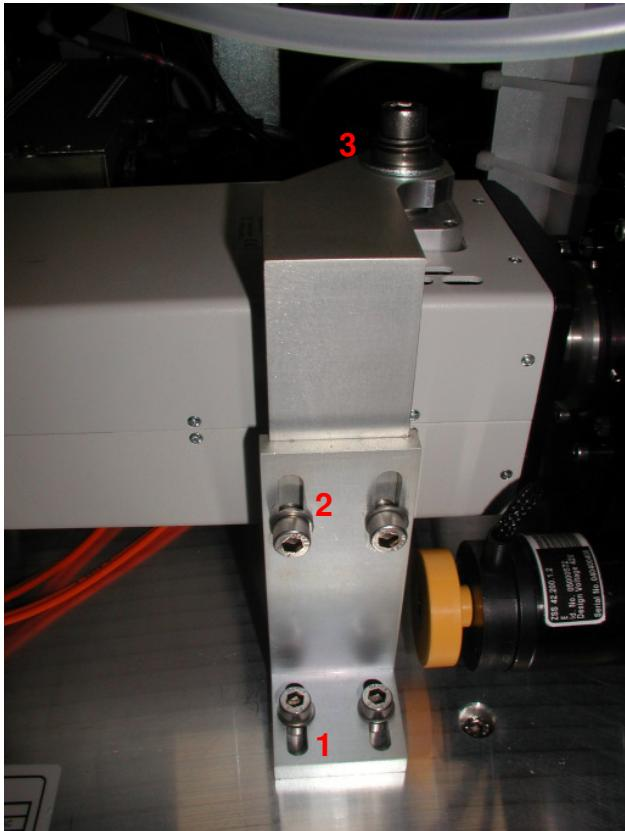

Figure 7: camera fastener with its according screws (1), (2), (3)
- fix the camera’s fastener (first tighten them only “handwarm”), begin with screws (1), end with screws (3) (see *Figure 7*)